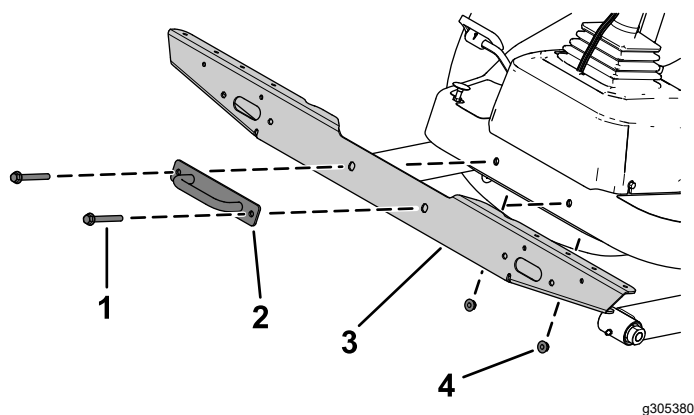

Figure 18
2. Secure the light cross mount to the platform using the previously removed bolts, nuts, and tie-down bracket (Figure 18).